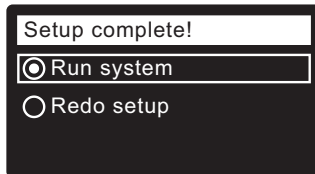

FIG. 27
22. Press the SELECT (O) button. The screen will show "Setup complete!" (See Figure 27).
- 23. If, at this point, you want to go back and make changes, press the DOWN (▼) button to scroll to **Redo setup**, then press the SELECT (O) button twice to repeat the "wizard" screens.
- 24. If no changes are desired, make sure **Run system** has a dot next to it (See Figure 27) and press the SELECT (O) button. The unit begins normal operation, described on Page 14.